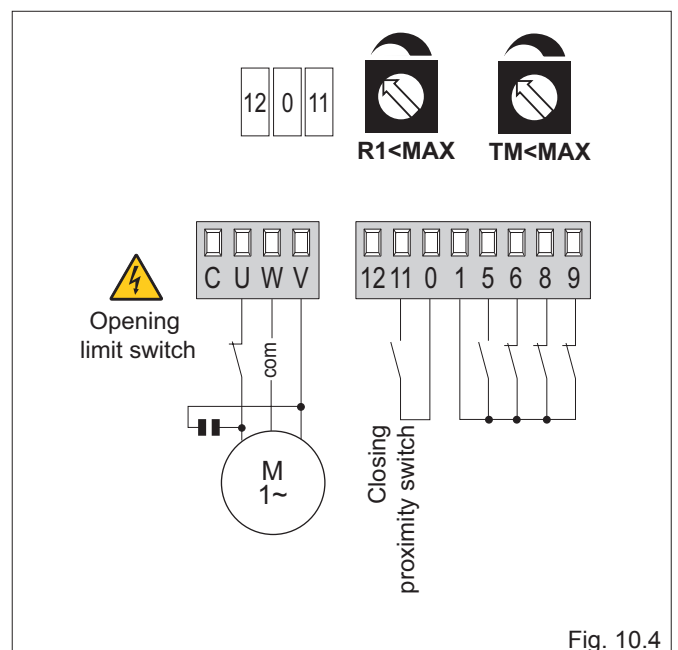

Fig. 10.4
- (Fig. 10.4) The leaf stops on opening limit switches and onto closing mechanical stops and reverses on obstacles.